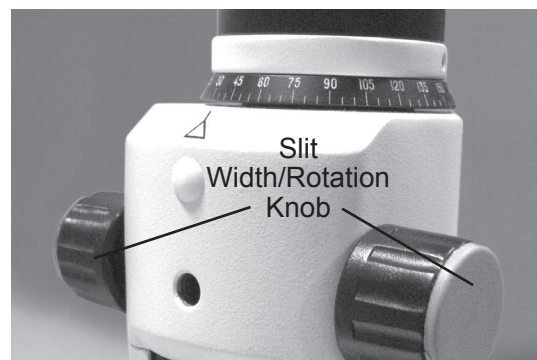

Figure IN-4 Adjust Slit Width
11. The slit width can be adjusted by rotating the Slit Width/Rotation Knob on either side of the instrument. Refer to Figure IN-4.